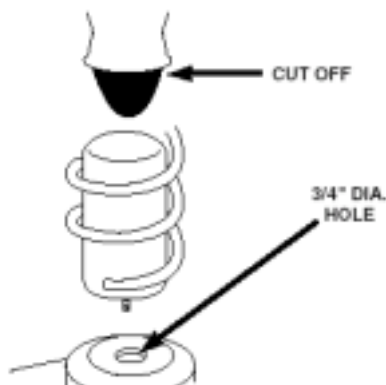

Figure 3
2. Center punch and drill a 3/4" diameter hole in the lower spring seat. Remove all burrs and sharp edges (Figure 3).
3. Cut off exposed portion of rubber jounce bumper within 1/2" of metal cup (Figure 3).